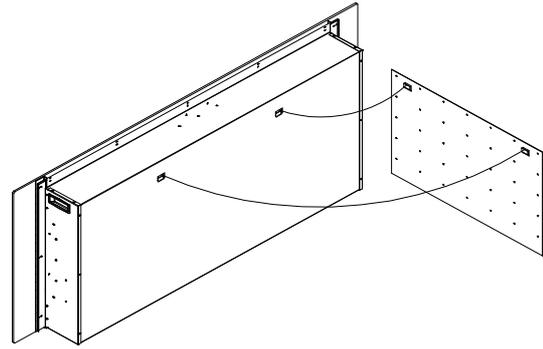

Fig. 2
4. Remove mounting plate from the back of the appliance by removing the two screws as shown in Fig. 2.